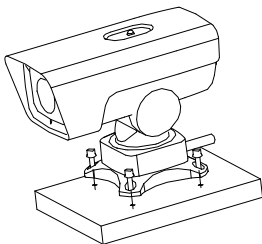

Figure 2-41 Install Base-mounted Camera
2. Insert four M6 hexagon socket screws (with length of 30 mm) through the camera bracket and the plane structure, and then lock the screw nuts to fix the camera, as shown in Figure 2-41.